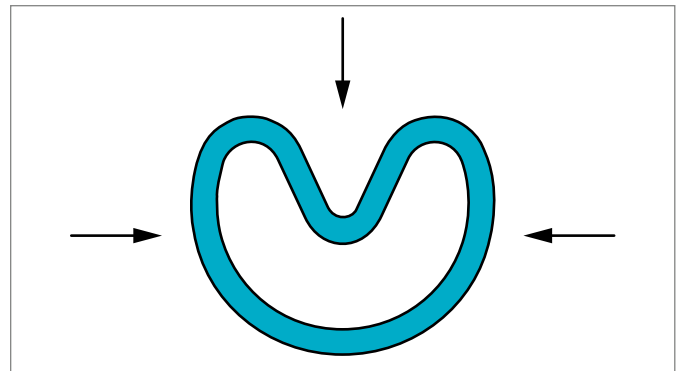
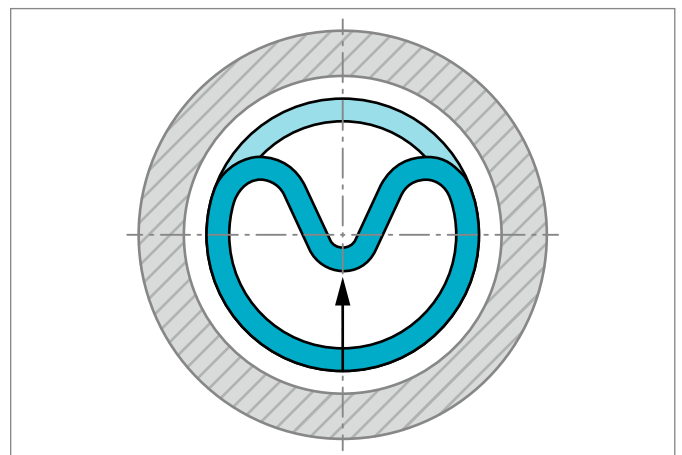
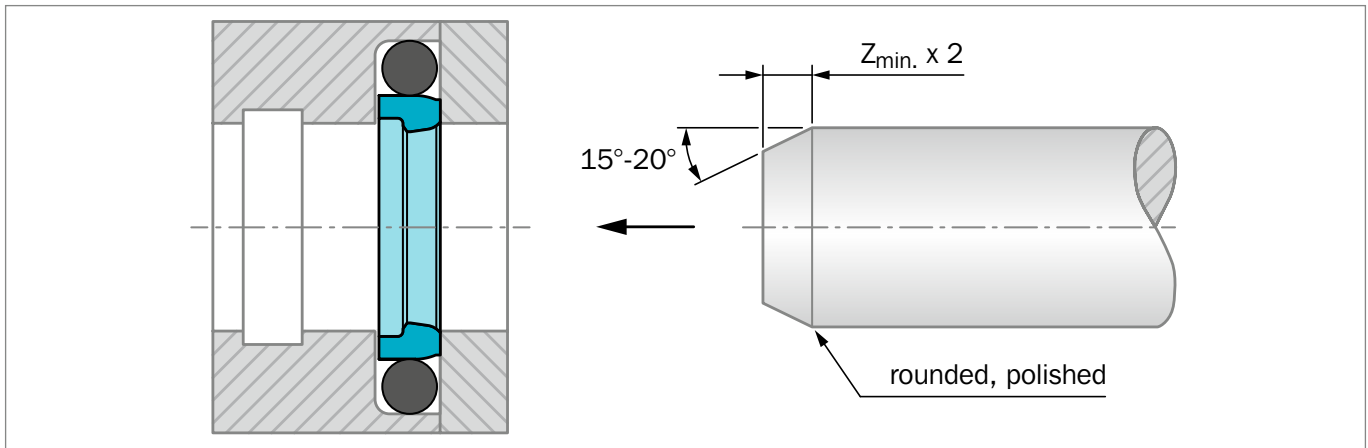

Figure 6: Kidney-shaped deformation of the seal ring
Figure 7: Inserting the seal ring into the closed groove
Figure 9: Calibration of the installed seal
- Ensure the piston rod has a lead-in chamfer; if not, use a calibration mandrel, see Figure 9.
- Compress the Turcon® or Zurcon® seals into a kidney shape while avoiding sharp bends see Figure 6.
- Place the seal ring in compressed form into the groove and push against the O-Ring in the direction of the arrow and form the seal into a ring see Figure 7.
The same installation procedure for rod Stepseal® 2K may be used for AQ Seal® or AQ Seal® 5 - see Figure 6 and Figure 7 - except AQ Seal® 5 uses different groove sizes. However, the Quad-Ring® and Bean Seal should not be fitted until the AQ Seal® or AQ Seal® 5 have been calibrated - see Figure 9.